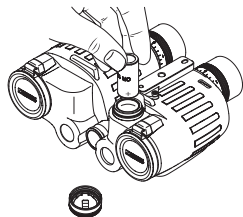

Fig. 5
2. Insert the battery into the battery case with its positive terminal going in first (as per the symbols on the battery case), see Fig. 5.